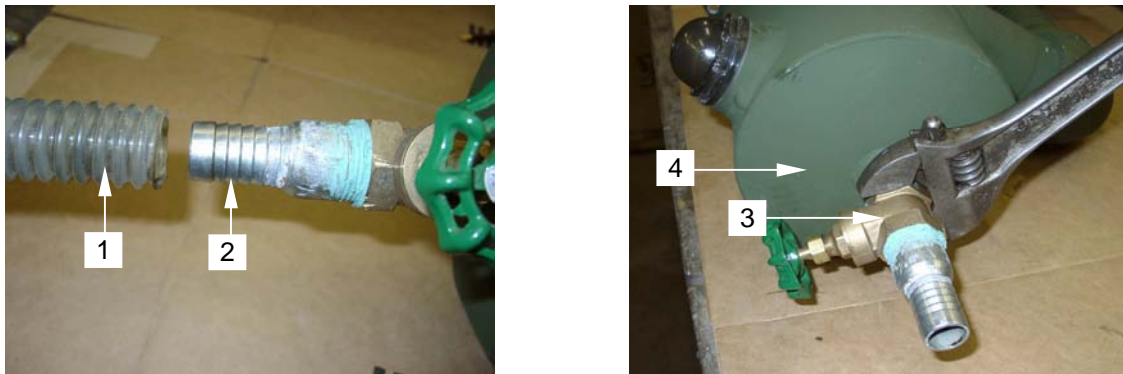

Figure 2. Removing Drain Hose and Valve
3. Remove the drain hose (figure 2, item 1) from drain hose nipple (figure 2, item 2).
4. Remove the drain valve (figure 2, item 3) from the bottom of the trap housing (figure 2, item 4).